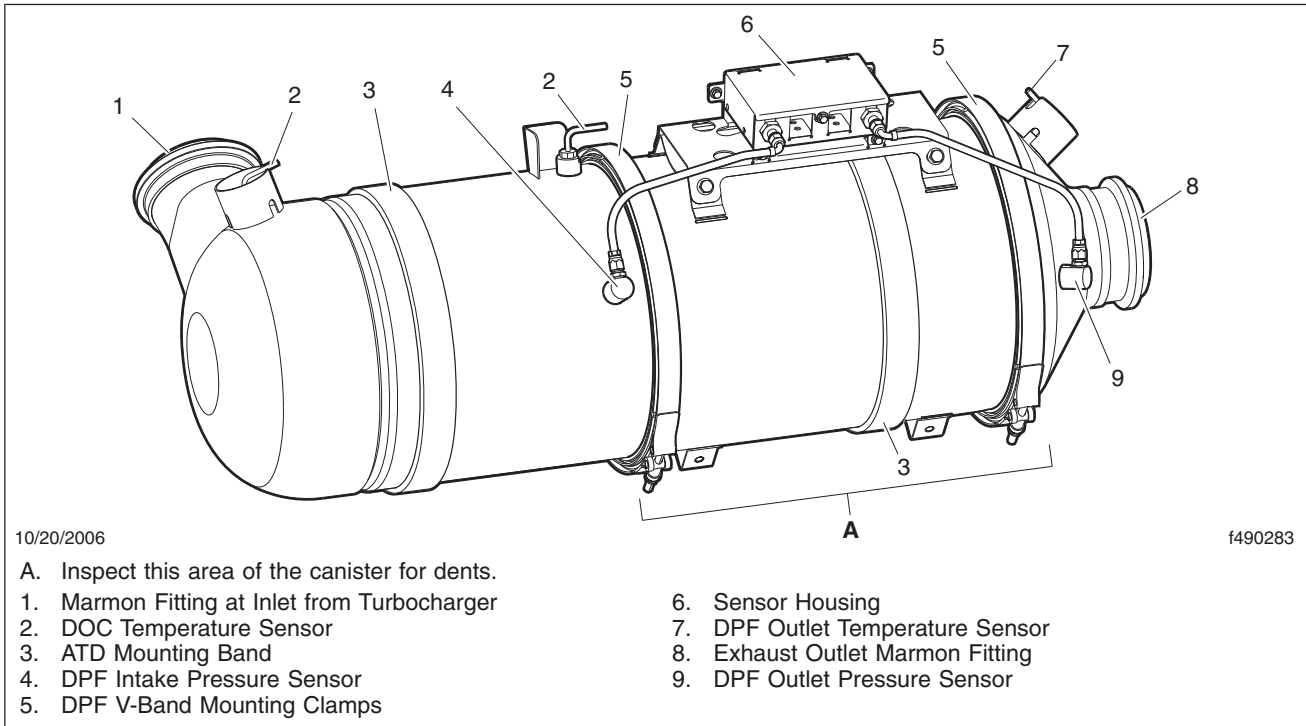

Fig. 4, Typical EPA07 Aftertreatment Device
IMPORTANT: The aftertreatment device (ATD), which is part of the aftertreatment system (ATS), requires special attention during regularly scheduled maintenance inspections; see **Fig. 4**. No leaks are allowed anywhere in the system. If any discrepancies are discovered, refer to the engine manufacturer’s service literature for repair instructions.
8. Check the DPF exterior surface for dents or other damage. See Ref. A of **Fig. 4**. A dent over 3 inches (76 mm) in diameter or 1/4-inch (6-mm) deep could cause internal damage to the DPF, causing it to malfunction.